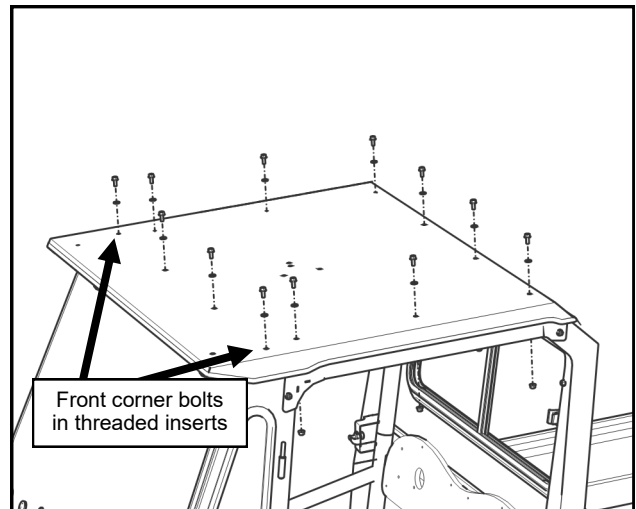

Fig. 1.5 (Remove standard roof)
- 1.4 If front LED lights are installed, disconnect the wires and remove the lights from the roof. See Figure 1.5,
- 1.5 Remove the standard cab roof assembly via twelve bolts, washers and nuts around the perimeter of the roof. See Figure 1.5. Retain the hardware for re-use with the A/C roof assembly.